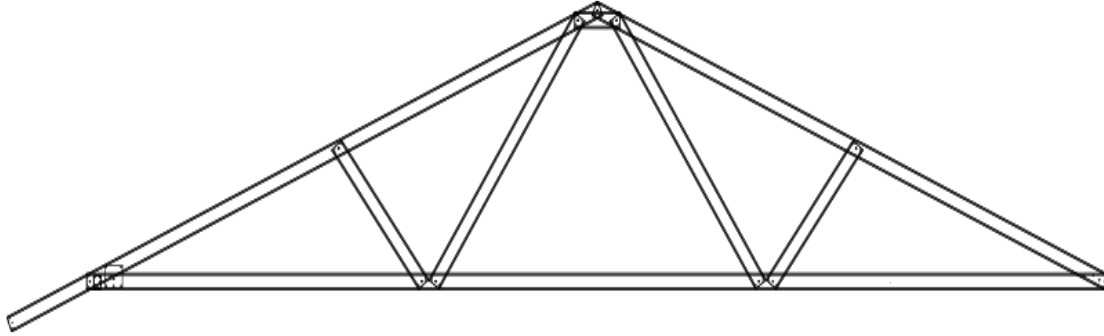

Figure 5.5 Bridge Truss
5.4) Bridge Truss: This truss type can be either a standard truss or a truncated truss with the overhang removed at the heel. A TBJ45 bridge bracket is fitted to connect the truss to a beam or girder truss. (Refer Fig. 5.5)